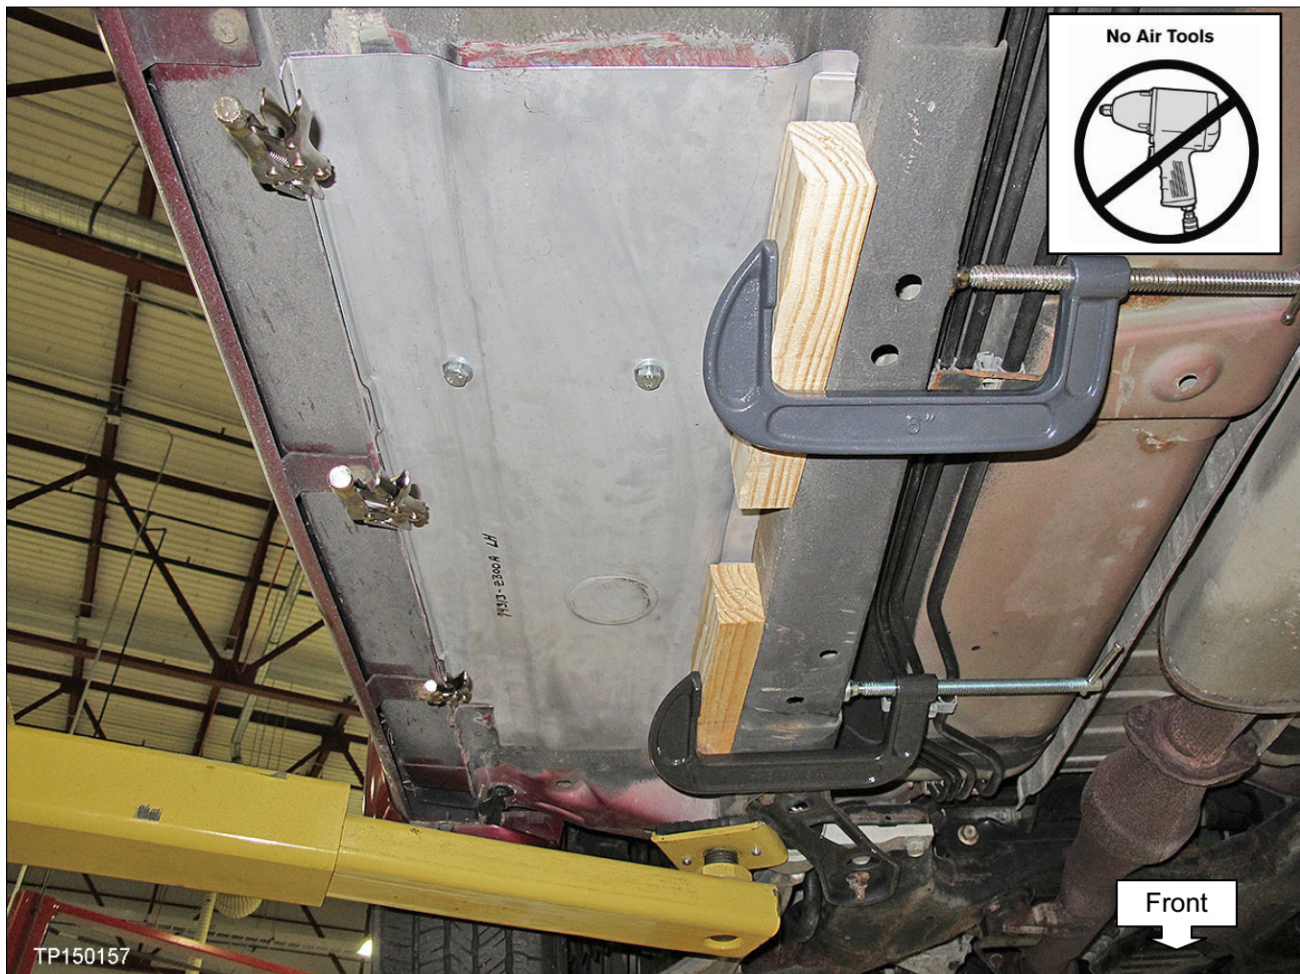

Figure 8
14. Install the Repair Plate, securing it with two retaining bolts threaded into the Rivet Nuts (see Figure 8).
15. Use locking pliers, two C-clamps, and two blocks of wood to securely fasten the Repair Plate to the floor pan (see Figure 8).
NOTE: If the locking pliers and C-clamps are angled as shown in Figure 8, the vehicle can be lowered and moved off the lift while adhesive is curing.